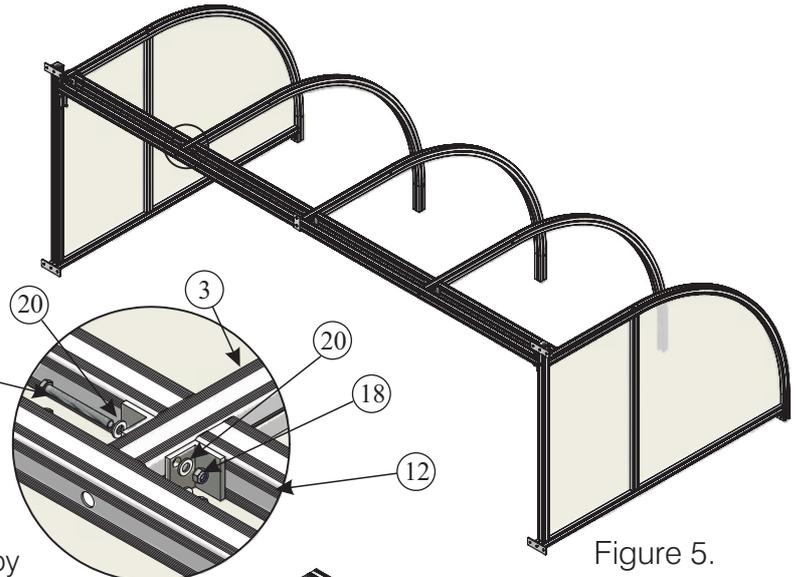
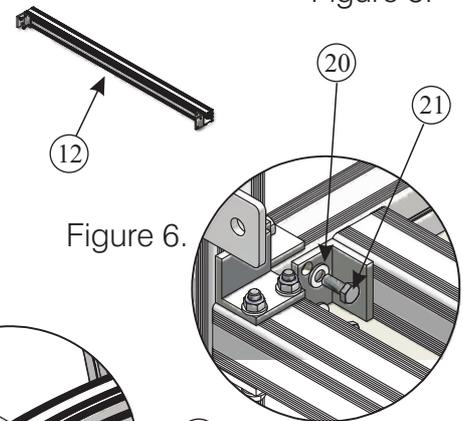

Figure 4.
Figure 6.
3.) Attach the back supports (12) between the bent supports (3) by attaching with 2 x BOL472 (22) (Figure 4). Fix with a skiffy washer on both sides and a nylock nut on the one side. Make sure that the bolts are only finger tight so that there is still some movement on the bracket. Attach the back supports to the sideframe using a skiffy washer (20) and BOL546 (21) as shown in figure 6.